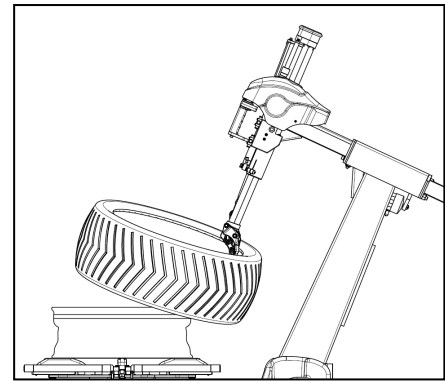

FIG33
- Then step the tilt pedal (FIG3-10) to tilt the column back and take out the tire like FIG33. Finish the demounting tire operation.